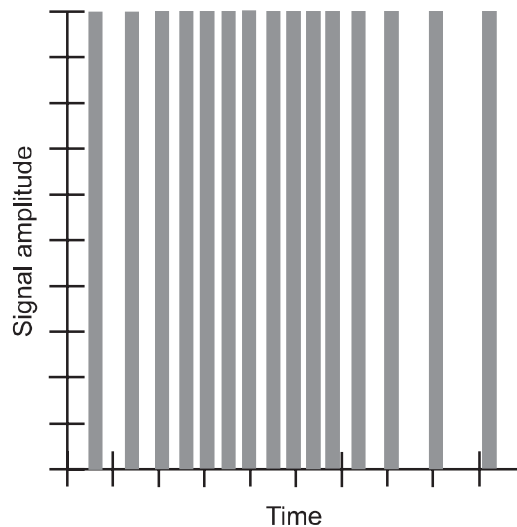

Fig. Exam-2. Illustration for Final Exam Questions 10 and 11.
10. Imagine that the vertical bars in Fig. Exam-2 represent bursts of a high-frequency RF carrier wave. This graph shows a form of
11. The greatest average signal power in Fig. Exam-2 occurs